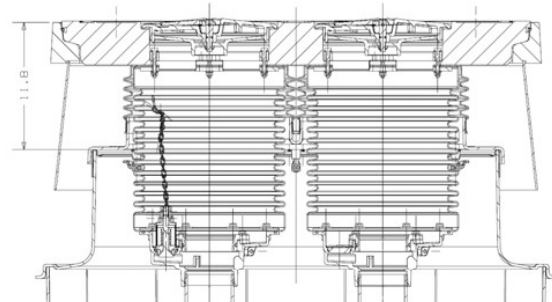

Figure 31
52. Remove existing FL100 cover and measure the distance from the spill platform to the final grade. Distance should be 12" +/- 4" in order to retrofit. If distance does not meet this range it may not be possible to retrofit without making adjustments. See Figure 31.